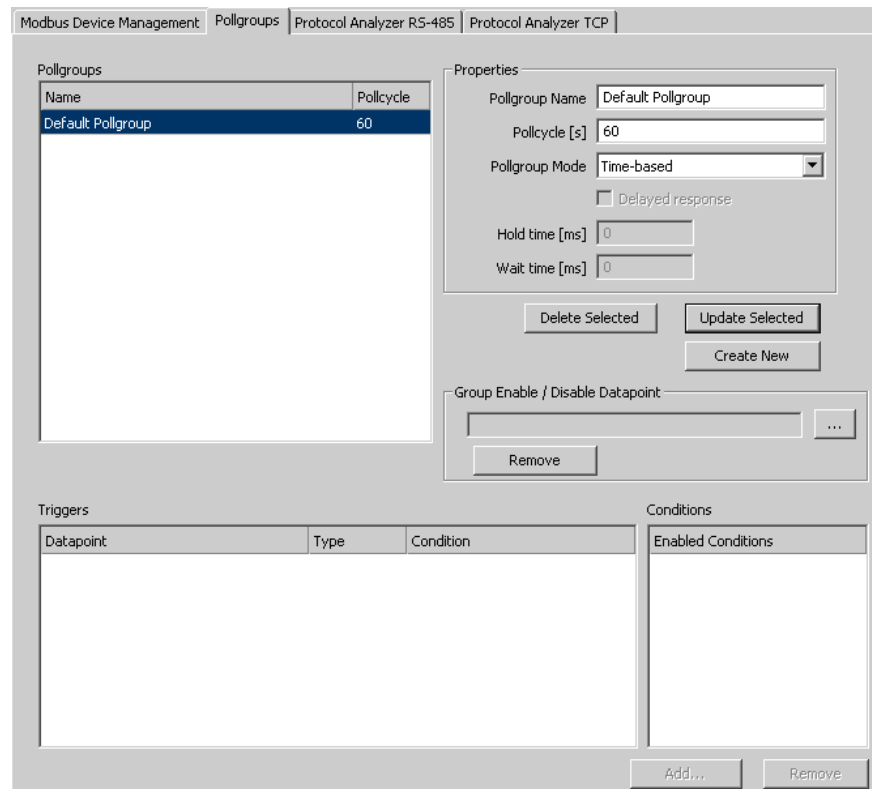

Figure 148: Pollgroup Management dialog.
2. Open the **Pollgroups** tab. This shows the dialog displayed in Figure 148.
2. In the **Modbus Management** dialog, open the **Pollgroups** tab. This displays the poll groups management tab displayed in Figure 148.